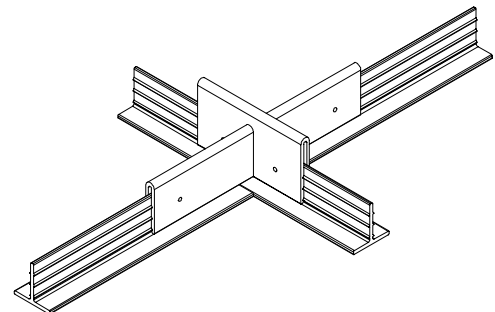

FIG. 3
1. Assemble the Cross Tees to the Main Runners using Cross Tee Clips. Use of Lock clips at these intersections helps assure a positive connection. The lock clip snaps onto the Main Runner. **FIG. 3**